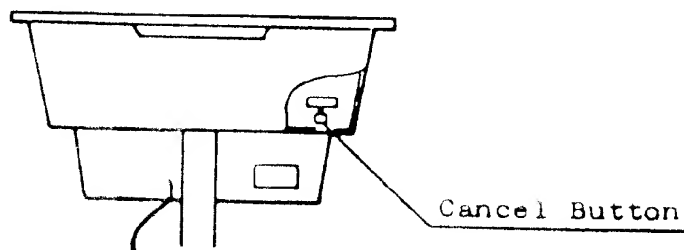

Fig. 5
- o Push the cancel button (shown in Fig. 5) to rub out any wrong word registrations.